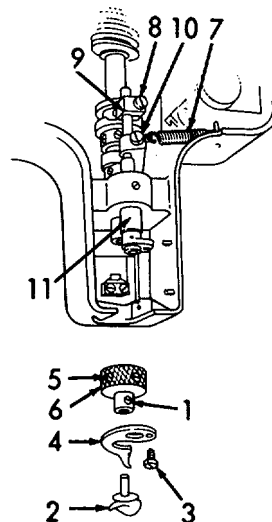

Figure 6-148. Looper and Finger, Removal.
- (4) Refer to Figure 6-148. Loosen setscrew (1) and remove looper (2).
- (5) Remove screw (3) and finger (4).
- (6) Loosen two setscrews (5) and remove looper holder (6).
- (7) Remove spring (7).
- (8) Loosen setscrew (8) and remove cam roller holder (9).
- (9) Loosen setscrew (10) and remove cam follower.
- (10) Remove shaft (11).